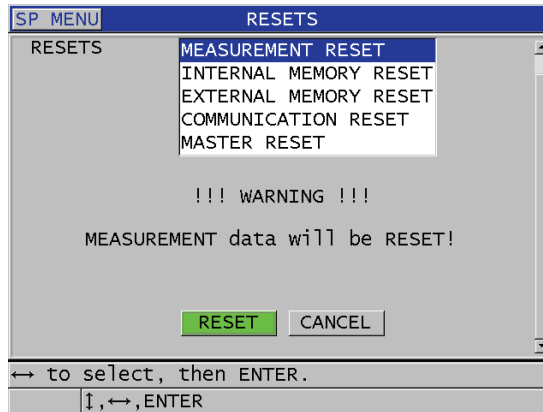

Figure 15-1 Activating a reset function
3. In the **RESETS** screen (see Figure 15-1 on page 265):